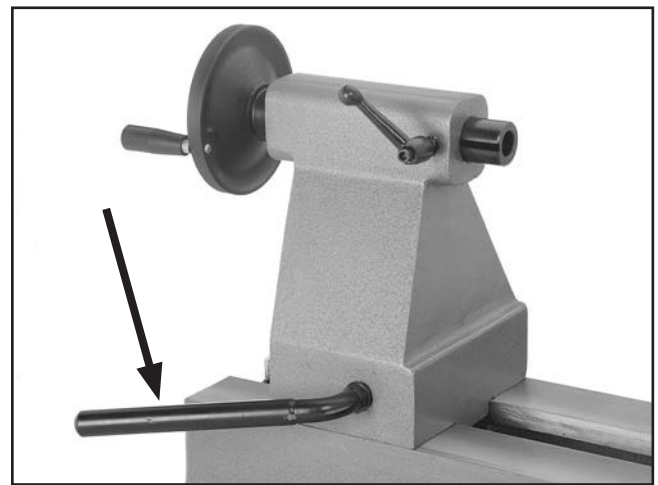

Figure 22. Tailstock lock handle.
1. Loosen the tailstock lock handle and move the tailstock to the desired position along the bed (see **Figure 22**).